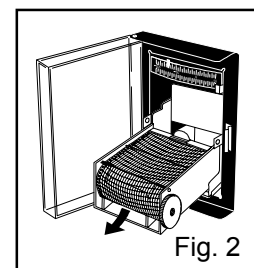

Fig. 2
2. Remove the recorder sensor cover (2 screws) of the inside (the right back front) of the freezer. (Fig. 2)
5. Fix a recorder sensor cover with 2 screws. (Fig. 2)
2. Pull the cartridge out of the mounted position. (Fig. 2)
2. Provide an interface board (MTR-480) code from the fitting hole. (Fig. 2)